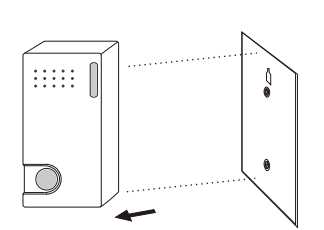
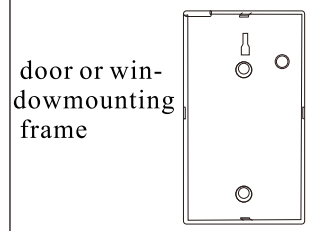

Figure 3
Figure 4
- C. Drill the holes and fix the frame to the wall using the screws with countersunk heads supplied in the package. (Figure 3).
- D. Remove the battery cover at the back of the main unit shown in the figure. Here you see the code ID attached. (Figures 4) and insert the batteries between the battery clip. The MD-209R will generate an enrollment signal after the batteries are installed. Attach the main unit to the fixed mounting frame and the magnet to the movable part (door or window - see Figure 3). Locate the magnet not more than 6 mm